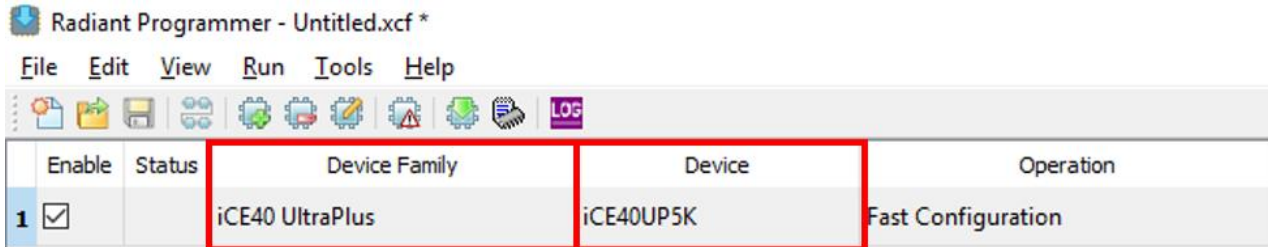

Figure 6.4. Device Family and Device Settings
4. Set **Device Family** to **iCE40 UltraPlus** and **Device** to **iCE40UP5K** as shown in Figure 6.4.